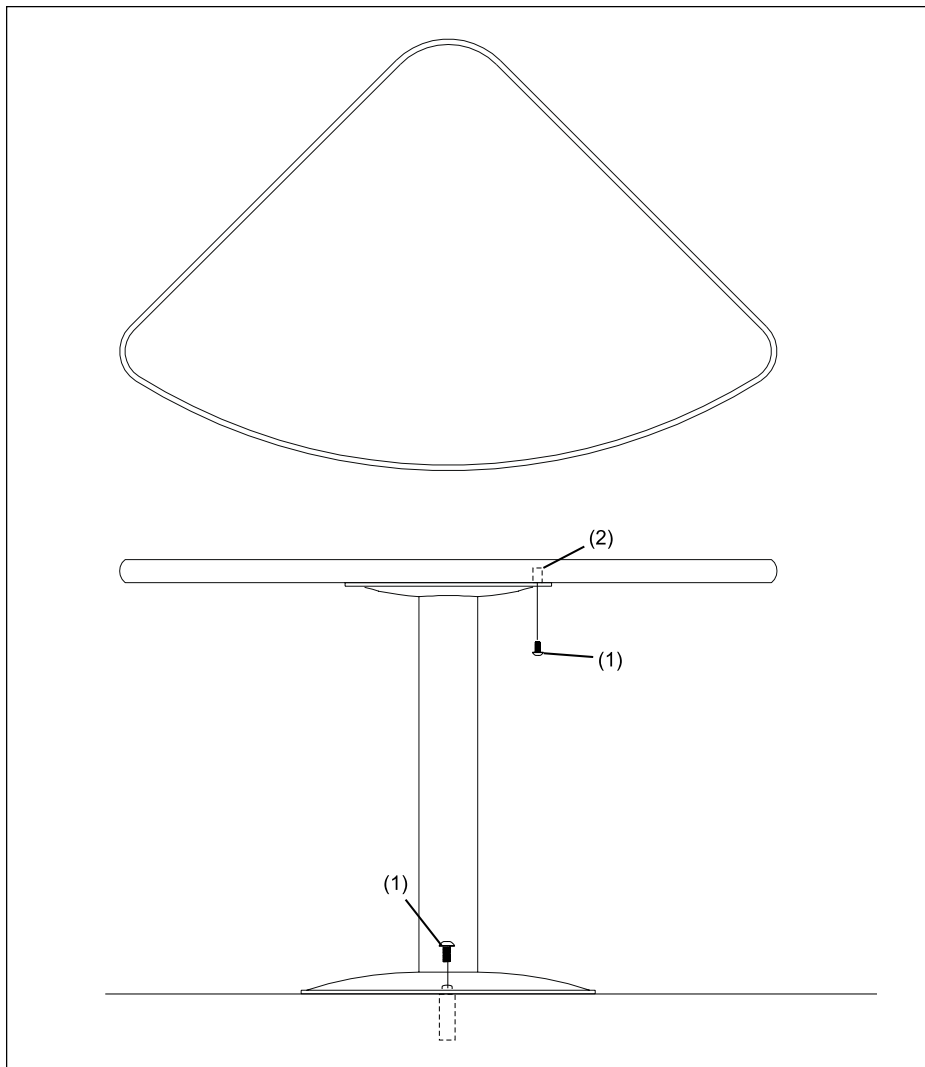

Figure 29. Secure Triangle Table Top to Leg Assembly
2. Secure the table base to the floor with four 3/8-16 x 3/4" button head cap screws tightened to 25 foot lbs (34 nm). Reference *Figure 29*.